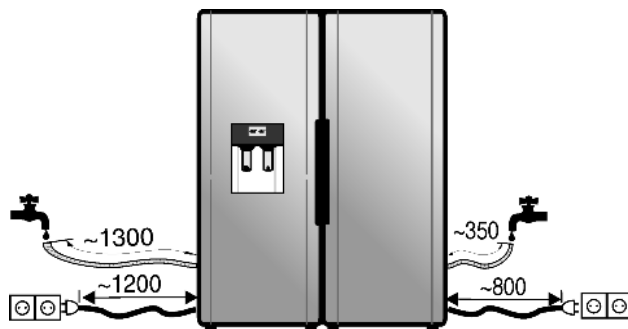

Fig. 17
- The stopcock should be outside the area at the back of the appliance and should be readily accessible so that the appliance can be slid in as far as possible and the stopcock can be closed quickly if necessary. Observe the clearances Fig. 17.